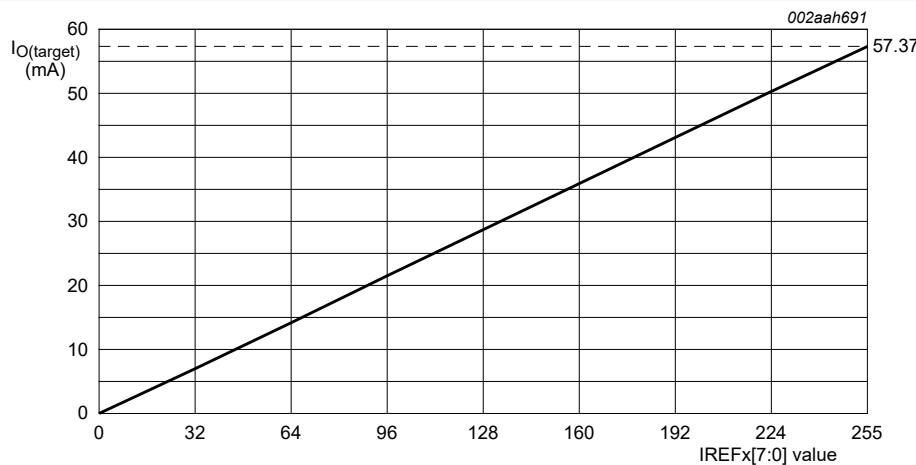

Figure 11. IO(target) versus IREFx value with Rext = 1 kΩ
**Example 1:** If  $R_{ext} = 1 \text{ kΩ}$ ,  $I_{O\_LED\_MIN} = 225 \mu\text{A}$ ,  $I_{O\_LED\_MAX} = 57.375 \text{ mA}$  (as shown in Figure 11).